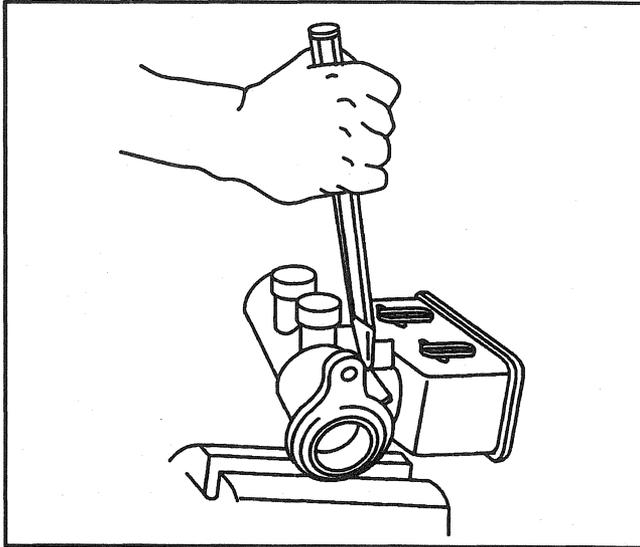

Figure 3—Removing Reservoir
4. Reservoir and grommets (Figure 3).